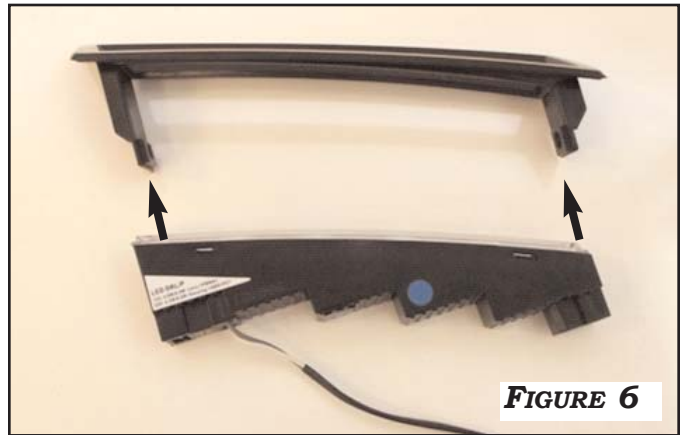

FIGURE 6
2. INSERT THE LED INSIDE THE DRL FRONT BEZEL. **NOTE: INSERT THE LONG END OF LED IN FIRST TO MAKE SURE SHORT END SNAPS INTO PLACE.** **FIGURE 6**
2. HOLD THE DRL BACK BEZEL BEHIND THE FENDER AND INSERT THE BOLT STUDS FROM DRL FRONT BEZEL THROUGH FENDER CUT OUT HOLE. **NOTE: THE SLOT ON THE DRL BACK BEZEL SHOULD BE IN THE DIRECTION TOWARD THE HEADLIGHT. FIGURE 6**